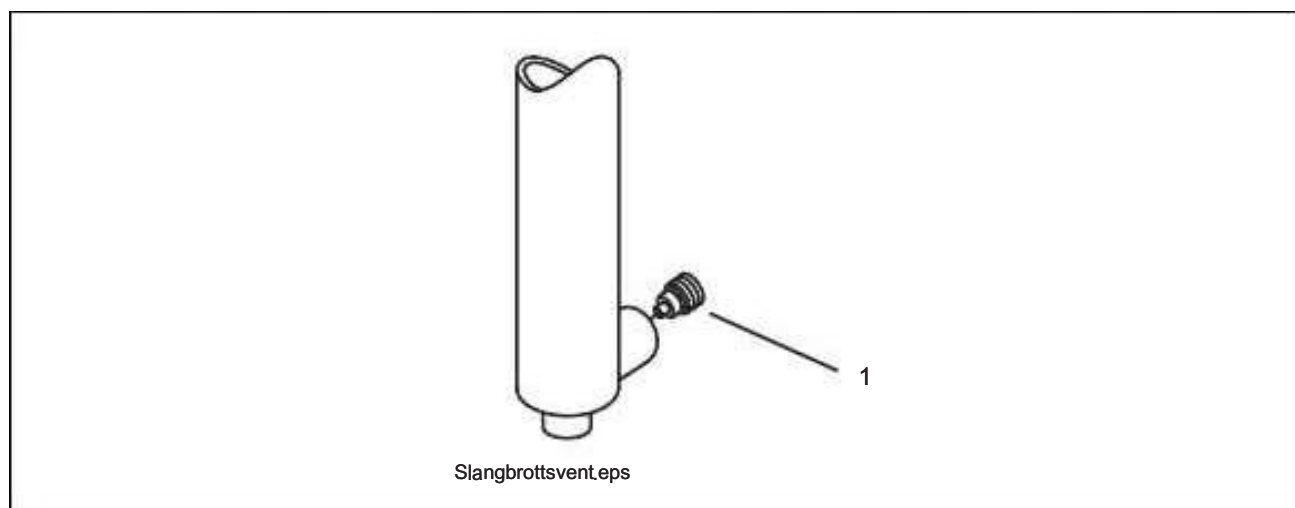

**Figure 8.6** Hose rupture valve
5. Unscrew the hose rupture valve, pos. 1 figure 8.6, that is screwed into the cylinder.